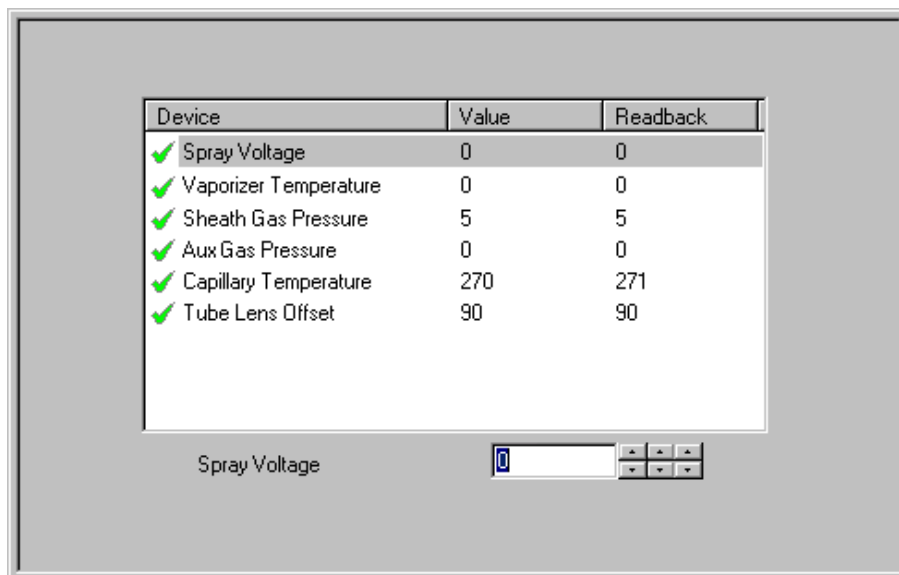

Figure 6-2. Optimize Compound Dependent Devices view
- i. Click on the Optimize Compound Dependent Devices button or choose **Display > Compound Dependent Devices** to display the Optimize Compound Dependent Devices view in the top right corner of the workspace. See Figure 6-2.